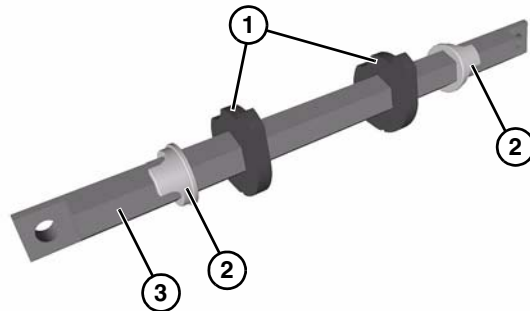

Figure 14
1. Slide stop keys (**Figure 14, item 1**) and tip up sleeves (**Figure 14, item 2**) onto hex shaft (**Figure 14, item 3**). The tabs on the tip up sleeves face outward and align with the slotted ends of the hex shaft as shown.